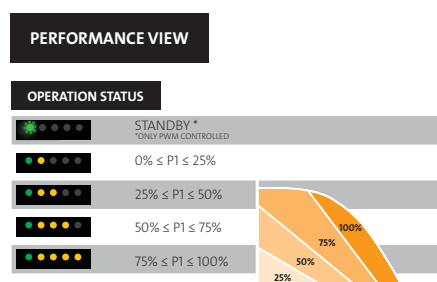

Fig. 3 Operation area according to performance load
- When the circulator is running, LED 1 is green. The four yellow LEDs indicate the current power consumption (P1) as shown in the table below. See fig. 3.